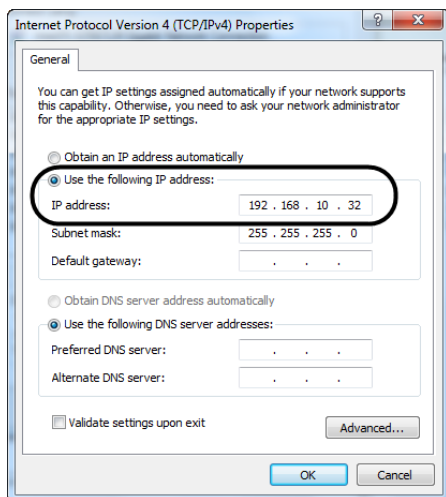

Figure 25
7. In the **Internet Protocol Version 4 (TCP/IPv4) Properties** dialog box, select **Use the following IP address** field and then enter the correct **IP Address** (Figure 25).